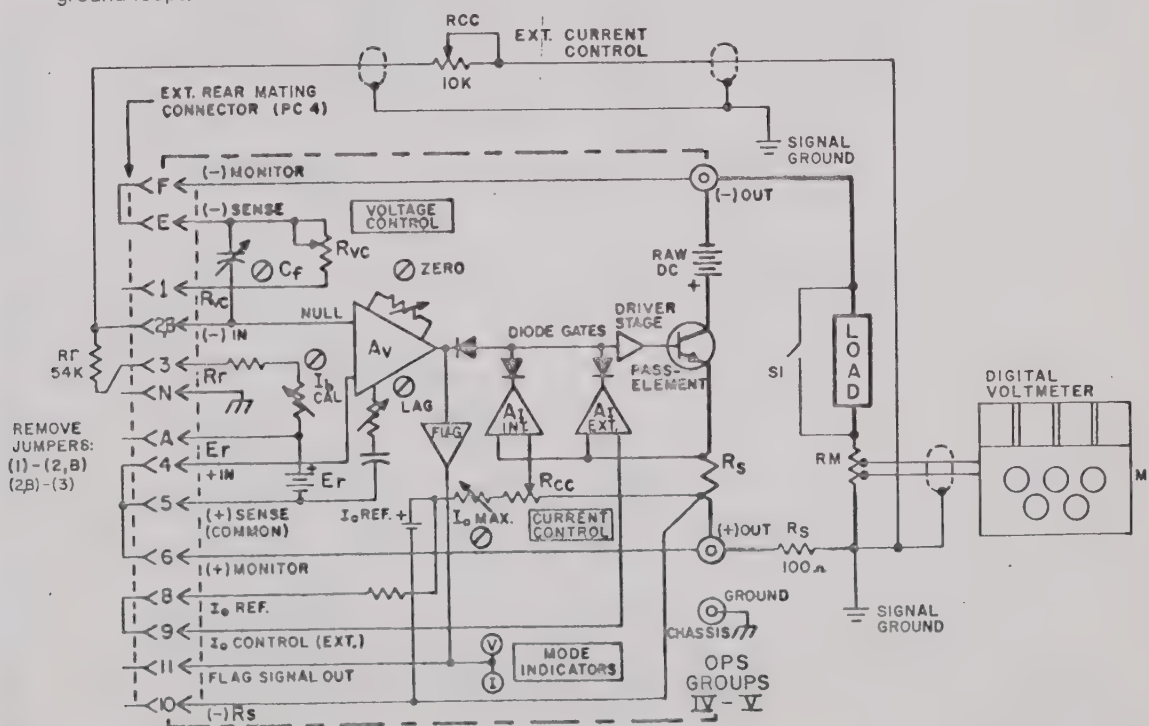

FIG. 3-16 EXTERNAL SENSING AND RESISTANCE CONTROL.
3-58 **EXAMPLE I.** To summarize the material presented in the previous paragraphs (3-53 to 3-57), a circuit for external sensing and resistance control is shown in FIG. 3-16 below. An OPS model is used to deliver stabilized output current from 0–10 milliamperes into a fixed load. From the table of values (Table 3-1) we have:
3-59 Connect all components as shown in FIG. 3-16. The sensing resistor (R_S) should be located as close to the power supply as possible. The leads connecting the control resistance (R_{CC}) must be shielded, with the shield (single-ended) connected to the signal ground. The signal ground point must be carefully selected to avoid ground loops.
- 3-61 **OUTPUT MEASUREMENTS.** Output effect measurements may be performed by using the setup shown in FIG. 3-16. For output effects due to a-c source changes, a means of varying the a-c source (variable transformer or "step" device) should be provided. For load effect measurements, the shorting switch (S1) is connected across the load. If the load is now shorted, or the a-c source varied, the deviation of the digital meter (ΔV) divided by the value of the measuring resistor (R_M) represents the output current change (ΔI_O): $\Delta I_O = \Delta V/R_M$. The output effect, in percent of the total output current, can be calculated by: